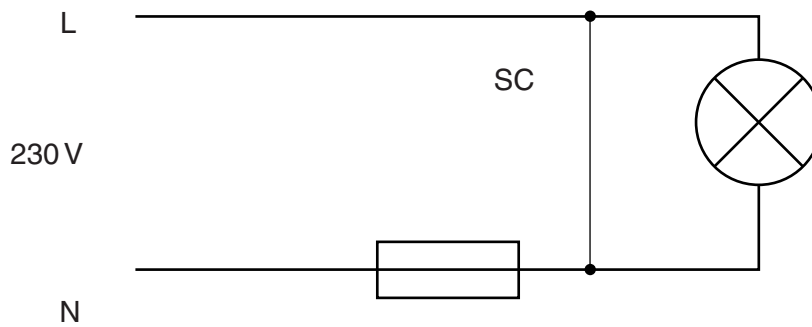

Fig. 7
- (b) Fig. 7 now shows the fuse in a different position and again short circuited.